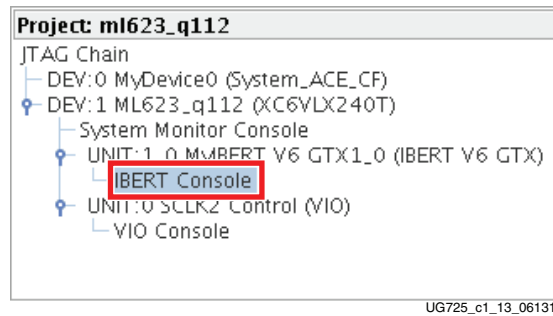

Figure 1-13: IBERT Console Selection
- In the project panel, double-click **IBERT Console** (Figure 1-13).